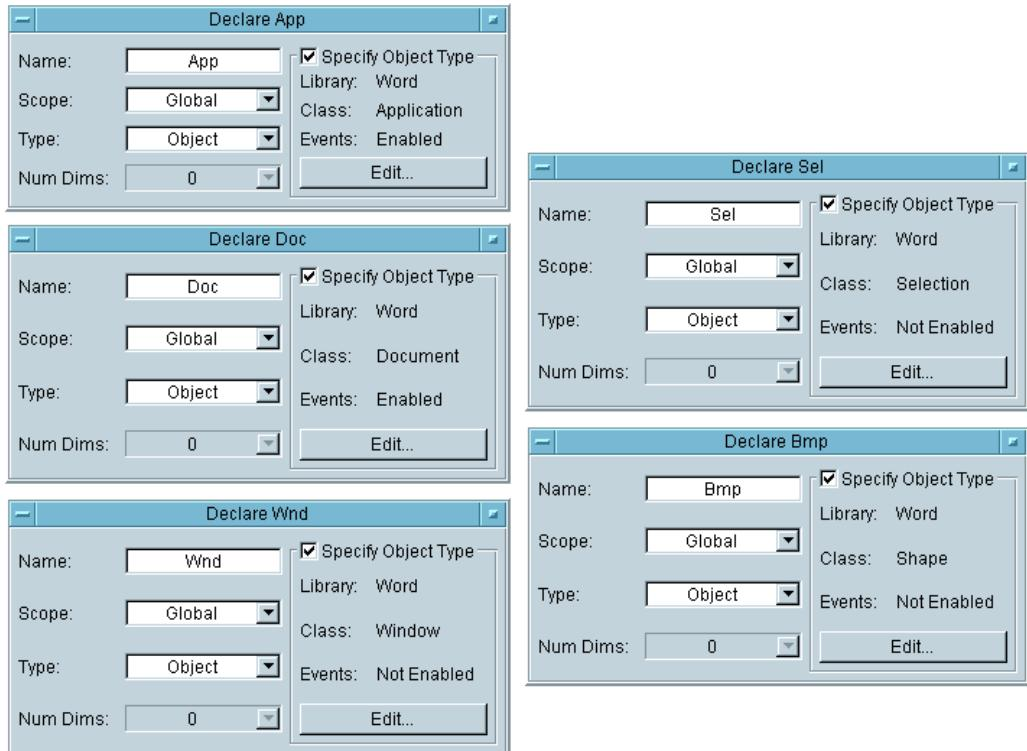

Figure 6-14. Object Variables
- e. Select Enable Events where the class permits it. Iconize these five icons. See Figure 6-14 for the open view of these variables.